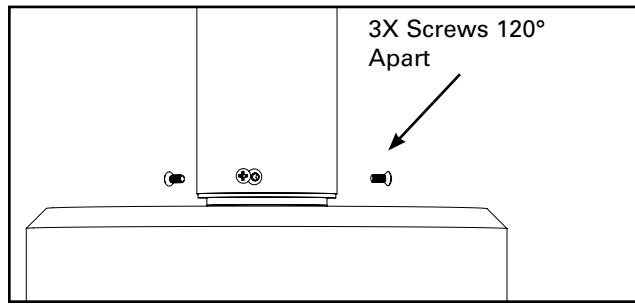

Figure 7.
2. Secure the external sleeve to the base by tightening the three (3) counter-sink screws. (Figure 7) Recommend tightening by hand as to not strip the screw